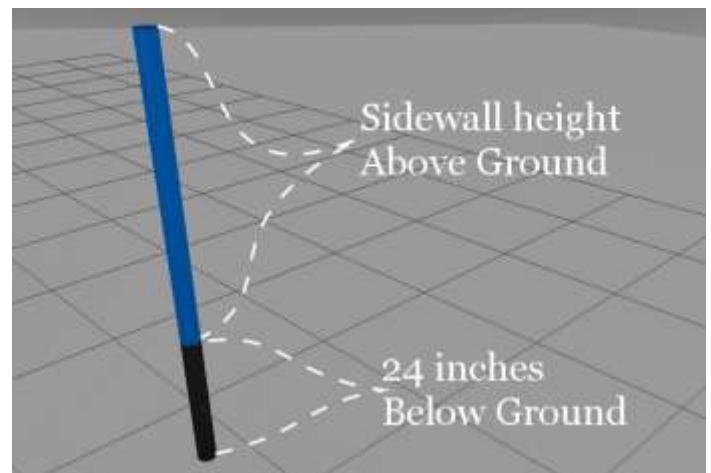

Fig 1.2 Ground Stake Depth
- The stakes should be approx 24 inches below ground. The section above ground will be the height of your sidewall(Fig 1.2.).